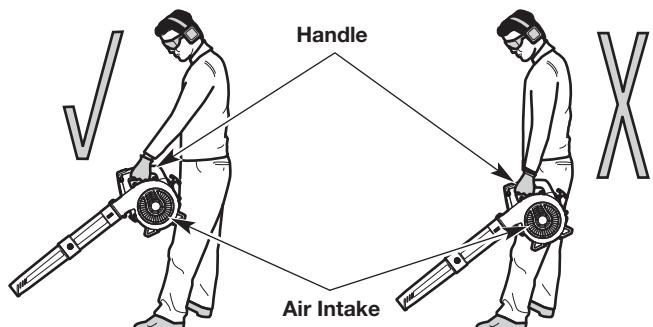

Fig. 13
- Stand in the operating position (Fig. 13). Stand up straight. Do not bend over.
- Hold the unit in front of, and away from, your body (Fig. 13).
**WARNING:** To prevent serious personal injury or damage to the unit, **DO NOT** hold the unit at your side (Fig. 13). The engine may be extremely hot. **DO NOT** block the air intake.